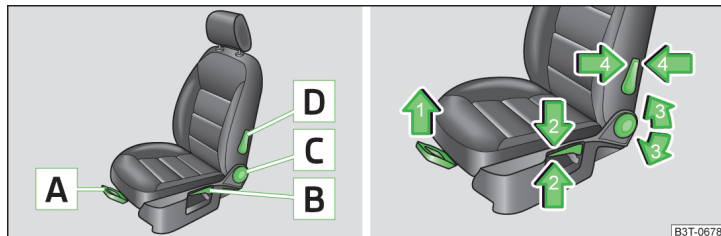

Fig. 65 Controls / setting
- Pull the lever **A** » Fig. 65 in the direction of the arrow 1 and push the seat in the required direction.
- Again push/pull the lever **B** » Fig. 65 in the direction of one of the arrows 2.
- Relieve any pressure from the seat backrest (do not lean on it) and turn the handwheel **C** » Fig. 65 in the direction of the arrow 3.
- Push the lever **D** » Fig. 65 in the direction of one of the arrows 4.